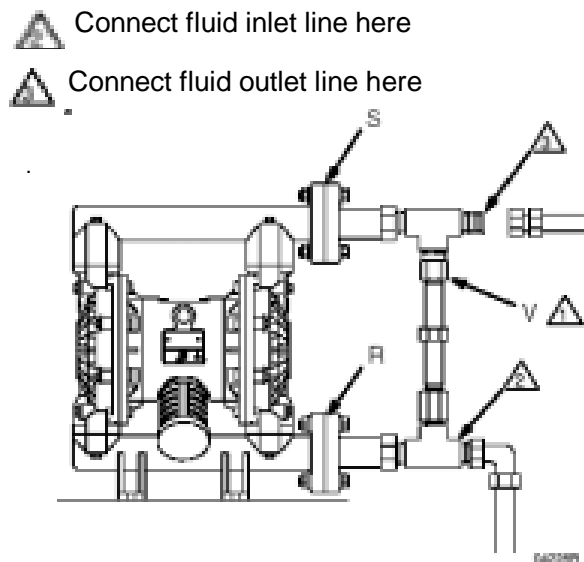

Fig 5
1. Remove the muffler (P) from the pump air exhaust port.
2. Install a grounded air exhaust hose (T) and connect the muffler (P) to the other side of the hose. The minimum size for the air exhaust hose is 3/4 in. (19 mm). If a hose longer than 15 in. (4.57 m) is required, use a larger diameter hose. Avoid sharp bends or kinks in the hose. See Fig5
- 3 Place a container (U) at the end of the air exhaust line to catch fluid in case a diaphragm ruptures.